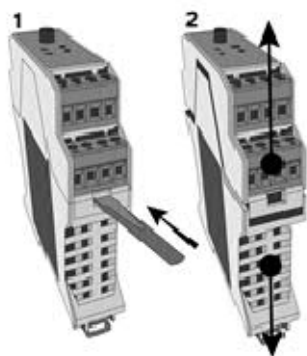

Fig.3. Taking of the case of the controller.
The signals logic is set using the jumpers "START\_PIN" and "DIR\_PIN" installed on the electronic board of the controller under the case (Fig. 3 and fig.4).
- Open the housing as shown in figure 3;